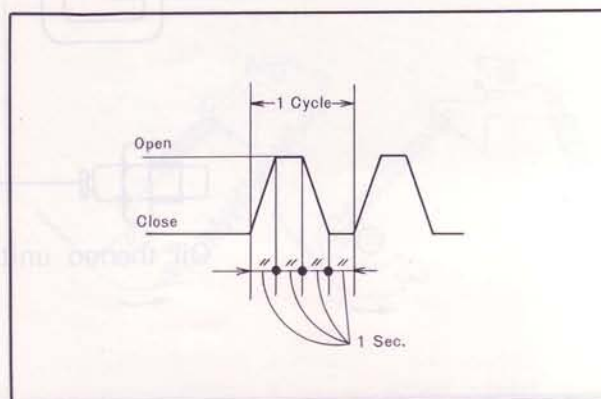

Fig. 4-15 Test pattern
6. Fully operate the throttle valve ten times according to the cycle as shown in Fig. 4-15 by means of the throttle lever or accelerator pedal and check the amount of discharge by reading the decrease of fuel in the burette.